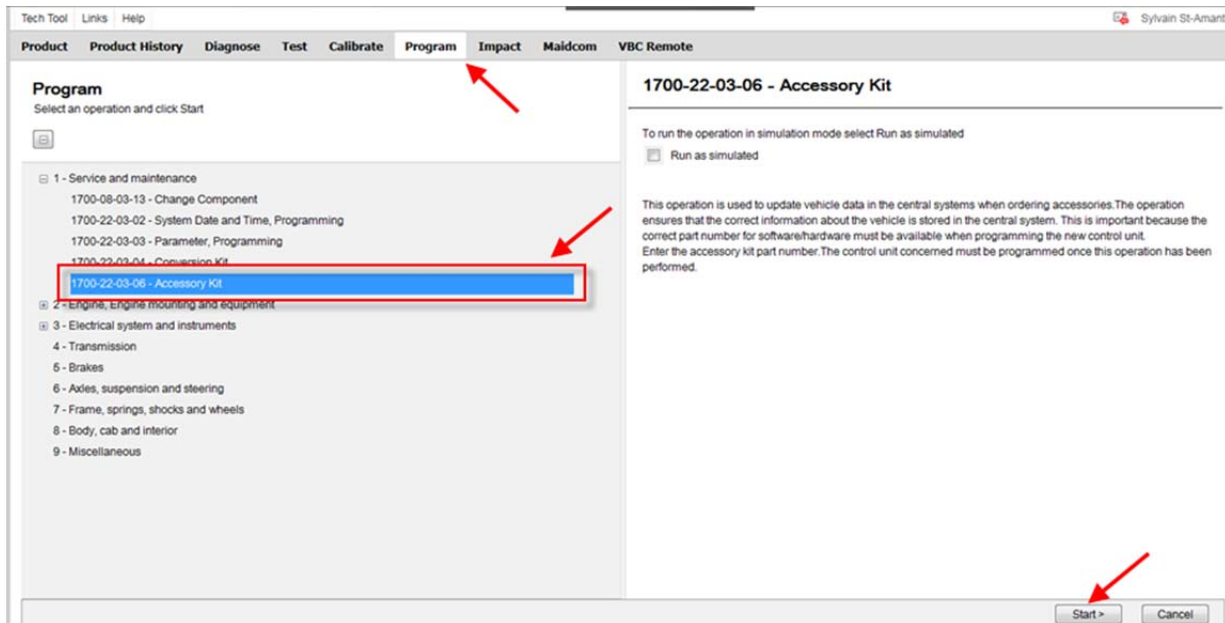

FIGURE 15
- In Premium TechTool, select PROGRAM tab. In PROGRAM tab, select operation 1700-22-03-06 Accessory Kit then click START (FIGURE 15).